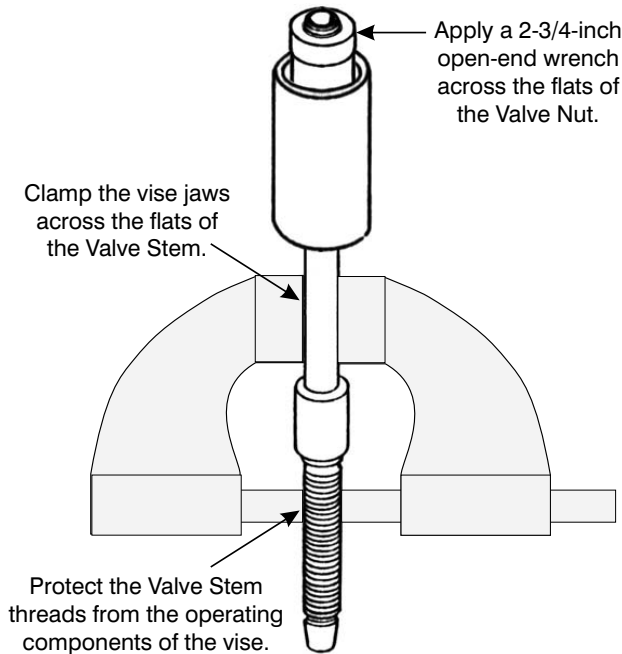

Figure 8-21. Valve Stem and Valve Components in Vise.
1. Secure the Valve Stem (8) and the assembled Valve components vertically in a vise. The vise jaws should grip the Valve Stem squarely across the Valve Stem flats as shown in Figure 8-21.
3. Use a 2-3/4-inch wrench to loosen the Valve Nut (4) as shown in Figure 8-21.